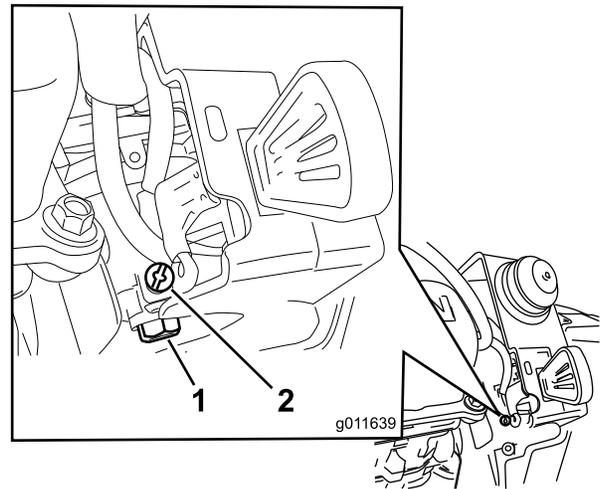

Figure 30
- B. Unscrew, but do not remove, the small screw on the side of the carburetor fuel bowl (Figure 30) until the fuel begins to drain from the carburetor. Drain the fuel into an approved fuel container.